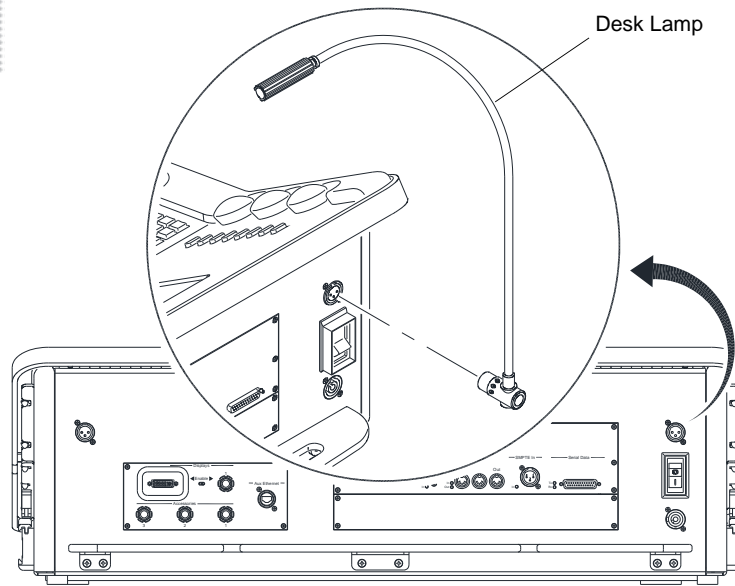

Figure 1-18: Installing V476 Desk Lamps
Step 7. At rear of console, install desk lamps (**Figure 1-18**).